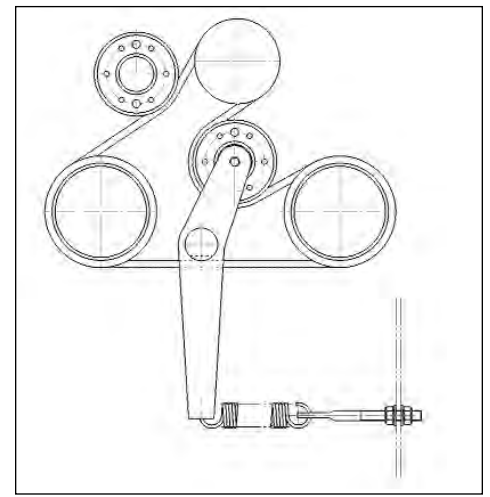

Figure 17
**Engine To Hydro Transmission Belt Adjustment:** (Refer to figure 17)